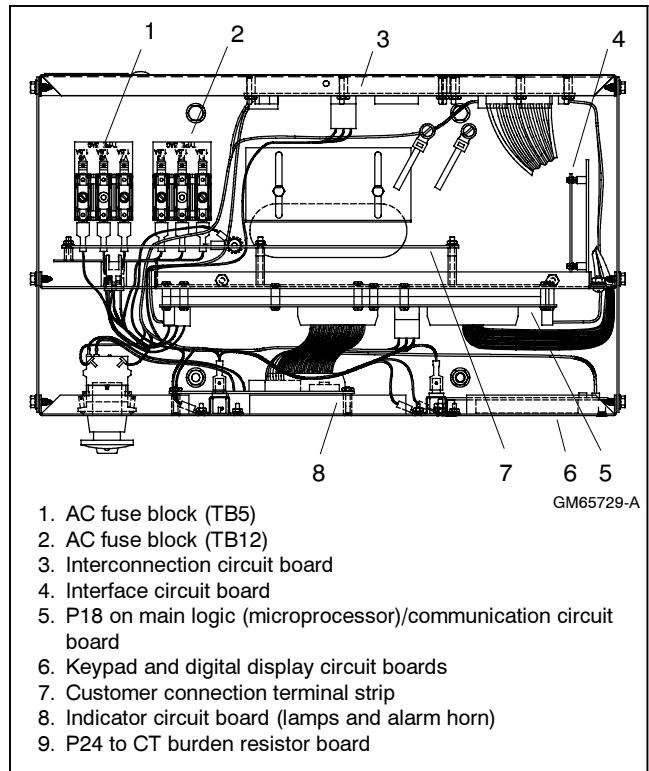
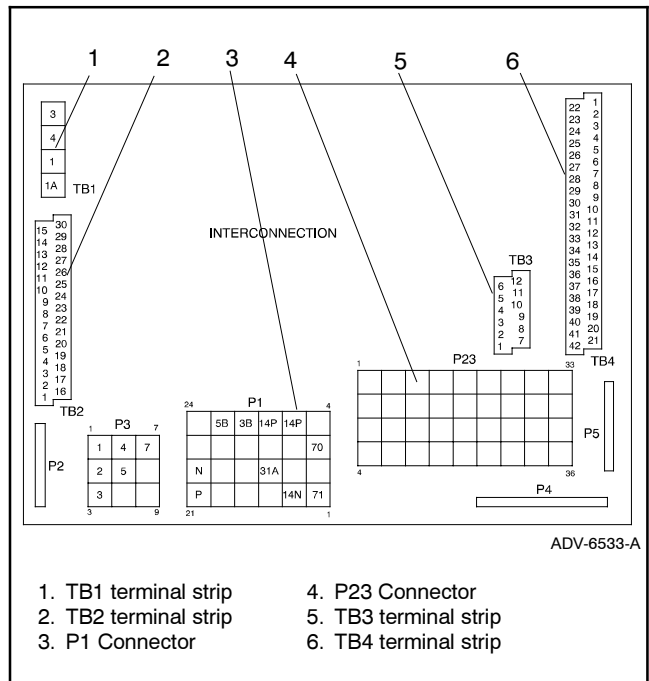

Figure 7-5 Disconnecting Controller Circuit Board External Wiring Connections
Figure 7-6 Interconnection Circuit Board Terminal Strips and Connectors
- a. Remove the controller cover. If access to the interconnection circuit board on the rear panel and/or the main logic/communication circuit board on the front panel is difficult to access, partially disassemble the controller box. Remove the two controller panel top screws and center bottom screw and then loosen the bottom screw on each side to swing the controller panel down. See Figure 7-5.
- b. Disconnect the controller harness leads. Listed below are some common leads and plugs that require removal or disconnection. Items below in **bold** are shown in Figure 7-5 and Figure 7-6. These connections are typical and may not apply to all applications. See the corresponding wiring diagram found in the wiring diagrams manual.
then loosen the bottom screw on each side to swing controller panel down. See Figure 7-5.
- b. Reconnect the controller wiring that was previously removed. See Figure 7-5, Figure 7-6, and the corresponding wiring diagram found in the wiring diagrams manual. Listed below are some common leads and plugs that may require reconnection. These connections are typical and may not apply to all situations.